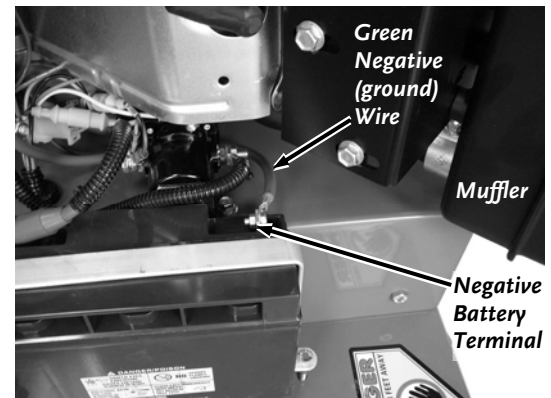

Figure 3
1. Connect the Green negative wire to the negative terminal on the Battery with two 5/16" Wrenches (**Figure 3**).